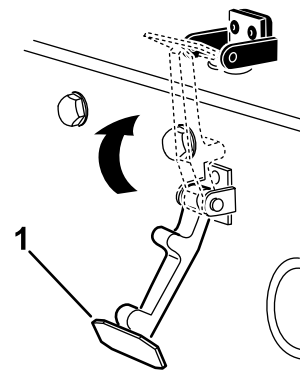

Figure 34
6. Hook the latch onto the hood-latch bracket (Figure 34).